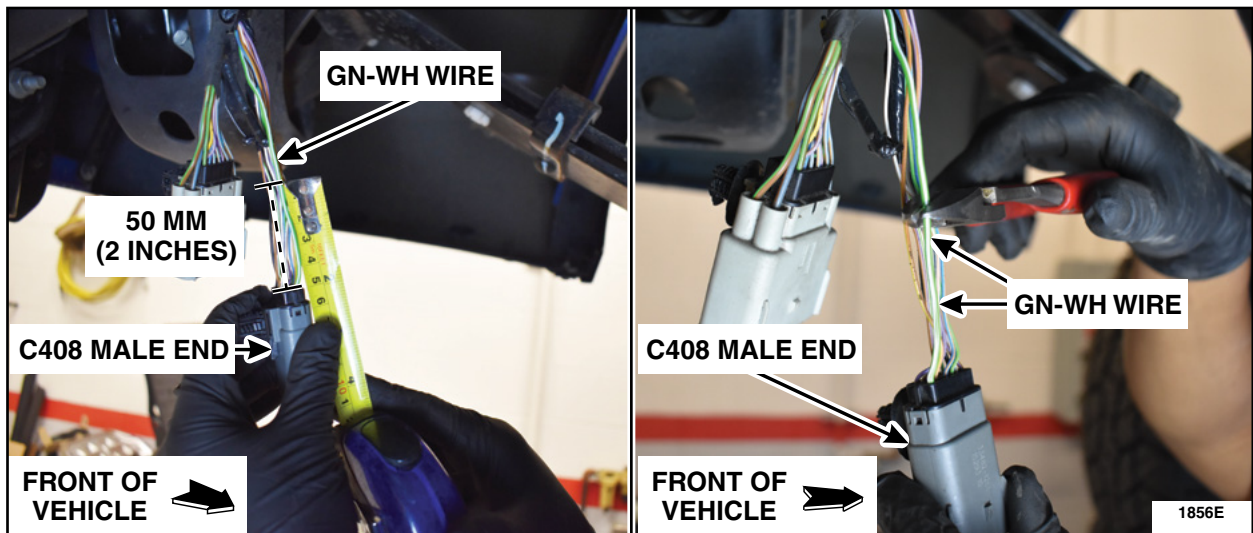

FIGURE 59
6. Measure 50 mm (2 in) from the back side of the male end of C408 and cut the Green-White (GN-WH) wire (cavity 1) at the 50 mm (2 in) measurement. See Figure 59.